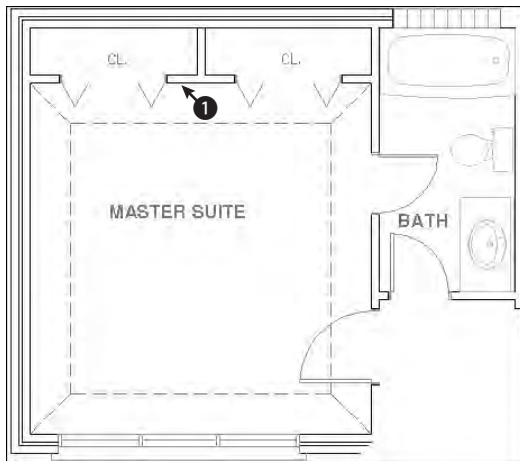

Figure 11-34: The master bedroom suite plan
2. Save the file as *ab11-06.dwg* in your AutoCAD Bible folder. This is a drawing of a master bedroom suite plan, as shown in Figure 11-34.
3.  Pick the wall at ❶ in Figure 11-34. Click Match Properties from the Standard toolbar. At the Select destination object(s) or [Settings]: prompt, use a crossing window to select all the folding closet doors on both sides of the line you just selected. Press Enter to end object selection. AutoCAD matches the properties of the doors to the properties of the wall. (The doors turn from gray to black/white.)